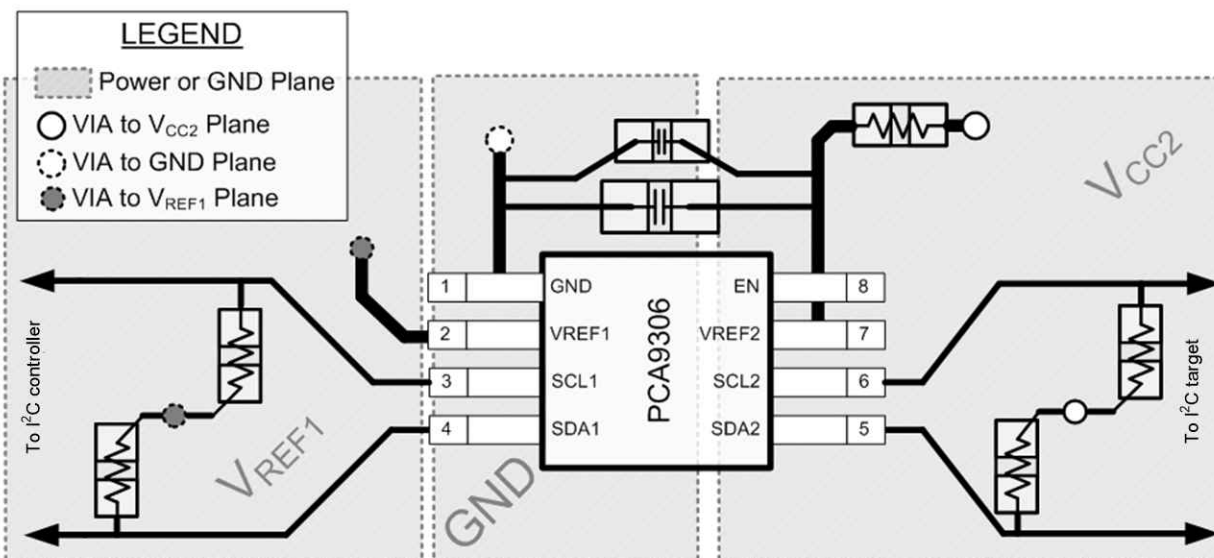

Figure 11-1. PCA9306 Layout Example
In all PCB layouts, it is a best practice to avoid right angles in signal traces, to fan out signal traces away from each other on leaving the vicinity of an integrated circuit (IC), and to use thicker trace widths to carry higher amounts of current that commonly pass through power and ground traces. The 100-pF filter capacitor should be placed as close to V_{REF2} as possible. A larger decoupling capacitor can also be used, but a longer time constant of two capacitors and the 200-kΩ resistor results in longer turnon and turnoff times for the PCA9306 device. These best practices are shown in Figure 11-1.
For the layout example provided in Figure 11-1, it would be possible to fabricate a PCB with only two layers by using the top layer for signal routing and the bottom layer as a split plane for power (V_{CC}) and ground (GND). However, a four-layer board is preferable for boards with higher-density signal routing. On a four-layer PCB, it is common to route signals on the top and bottom layer, dedicate one internal layer to a ground plane, and dedicate the other internal layer to a power plane. In a board layout using planes or split planes for power and ground, vias are placed directly next to the surface-mount component pad, which must attach to V_{CC} or GND, and the via is connected electrically to the internal layer or the other side of the board. Vias are also used when a signal trace must be routed to the opposite side of the board, but this technique is not demonstrated in Figure 11-1.